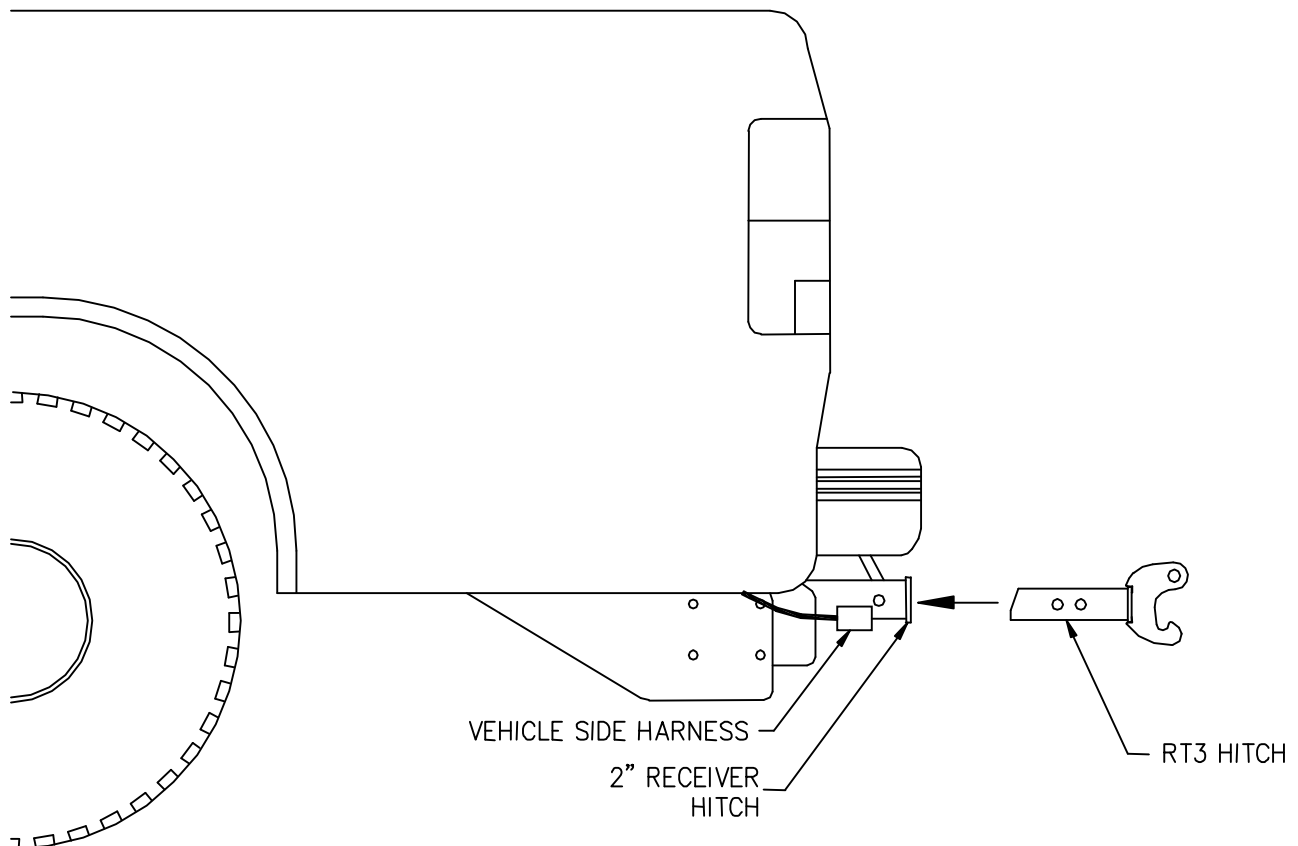

Figure 8. RT3 Hitch Attachment Procedure
- 1) Insert RT3 Hitch into 2" Receiver Hitch. See Figure 8.